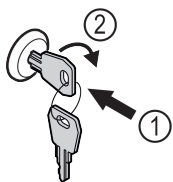

Fig. 130
- ▶ Insert the key. Fig. 130 (1)
- ▶ Turn the key clockwise by 90°. Fig. 130 (2)